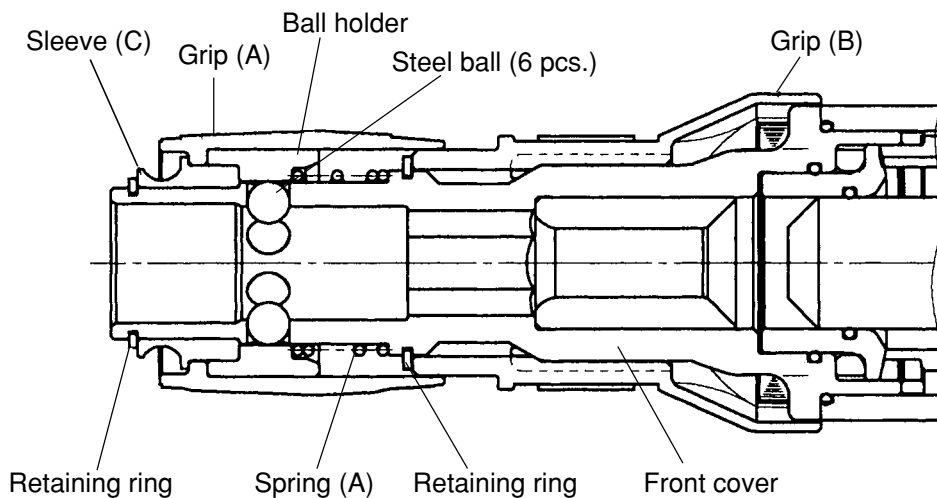

Fig. 12
Remove the Retaining Ring D28 **[2]** by means of a snap ring remover, then Sleeve (C) **[3]**, Grip (A) **[4]**, Ball Holder **[5]**, the six Steel Balls D7.94 **[7]** and Spring (A) **[6]** can be removed from the Front Cover Ass'y **[10]**. Furthermore, remove the Retaining Ring D35 **[8]** by means of a snap ring remover, then Grip (B) **[9]** can be removed from the Front Cover Ass'y **[10]**. (Fig. 12)